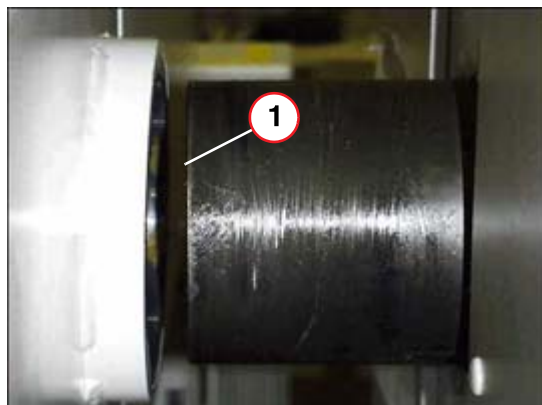

Fig. 13: Unit carrier/lifting base
- Move the unit carrier to the lifting base and raise it to the level of the lifting base flange with the aid of the transport rollers (1/Fig. 13 / p. 17).